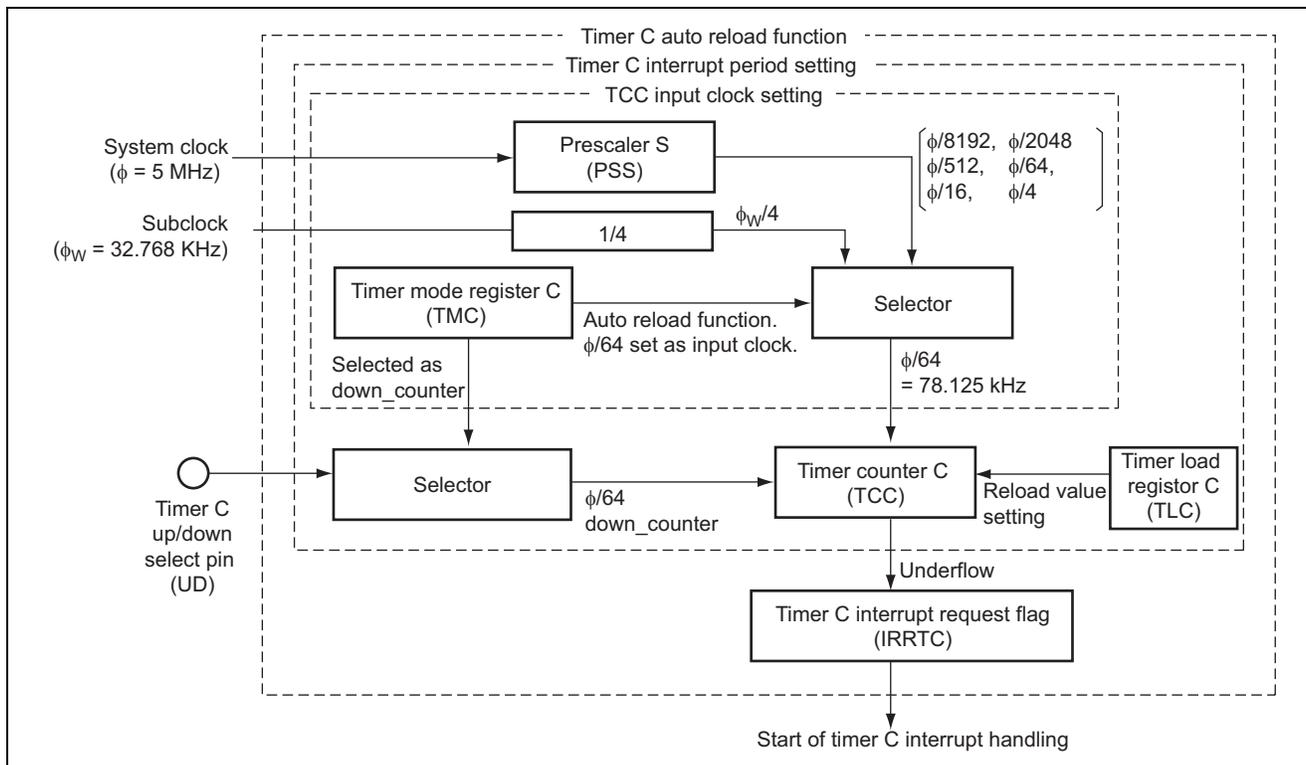

Figure 1 Block Diagram of Timer C Auto-Reload Function
- a. The block diagram of the Timer C auto-reload function is shown in Figure 1 and is described below.